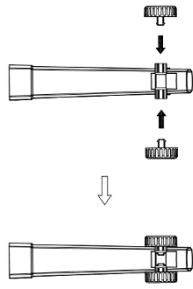
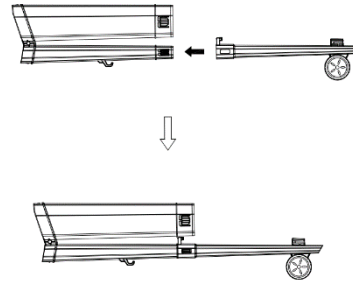
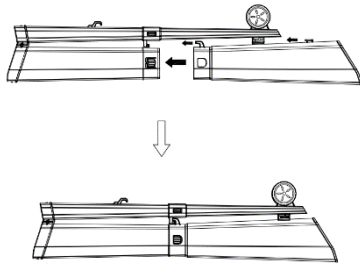
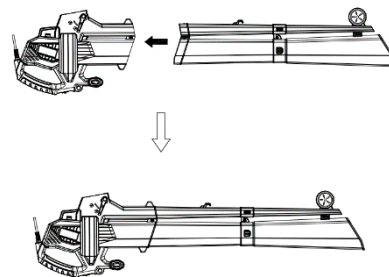

Fig. 2
Fig. 3
Fig. 4
Fig. 5
4. Assemble wheel and blower/suction tube (Fig.2 Fig.3 Fig.4 Fig.5)
- Pull out two wheels and blower tube, holding blower tube and install two wheel, refer to Fig.2.
- Pull out central tube, Slide the blower tube into the central tube. Refer to Fig.3.
- Pull out suction tube, Place the suction tube on the central tube, the suction tube clicks into place. Refer to Fig.4.
- Put the whole tube into the machine body. refer to Fig. 5